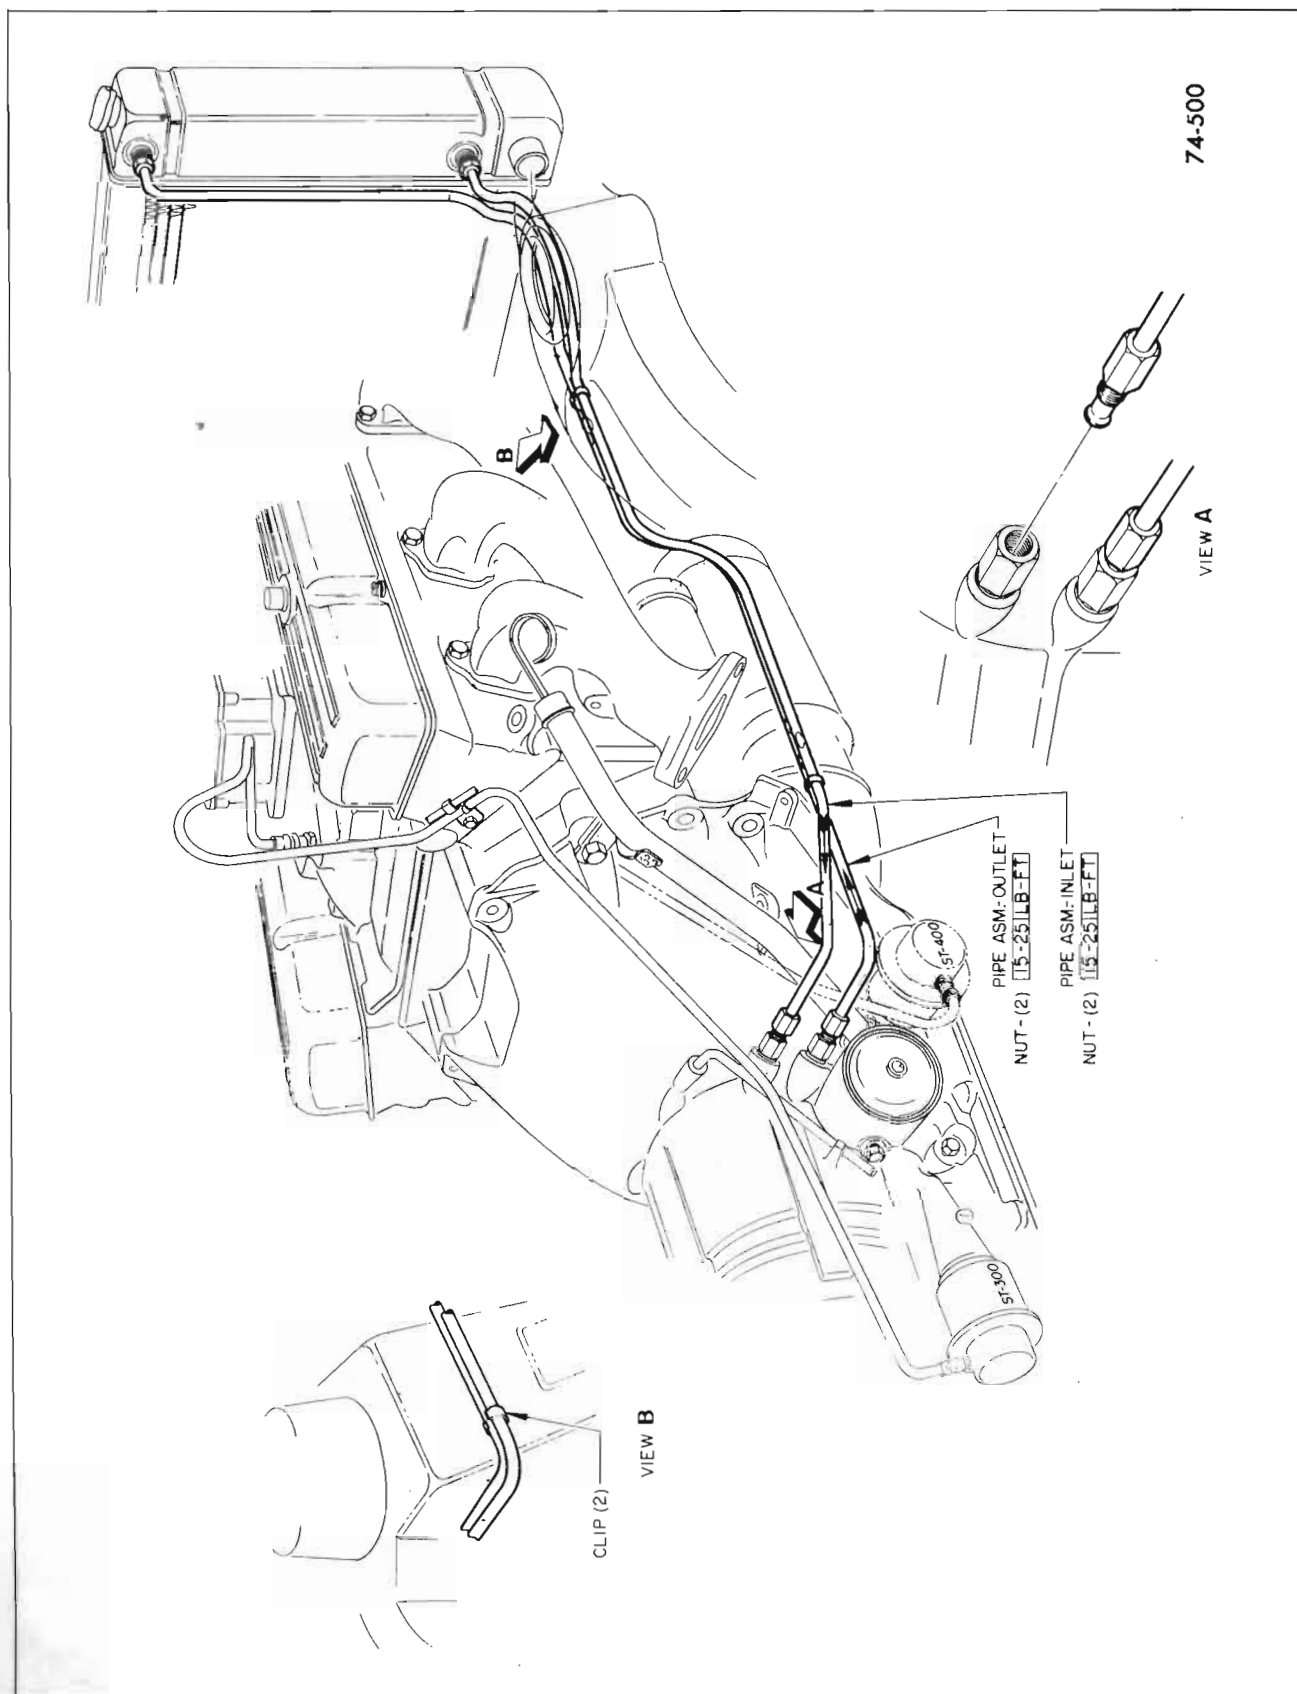

Figure 74-500—45000 Series
5. Remove vacuum line from vacuum modulator. See Figures 74-500 and 74-501.
pipe from transmission. See Figure 74-500 and 74-501.